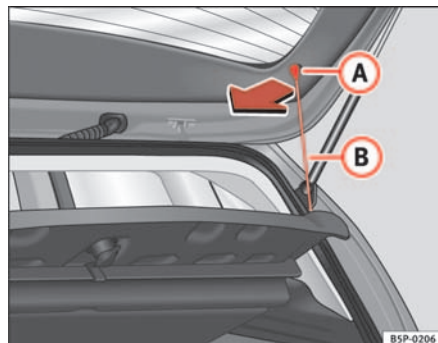

Fig. 120 Luggage compartment cover
- Disengage the loops ⇒ fig. 120 **B** from the allotments **A**